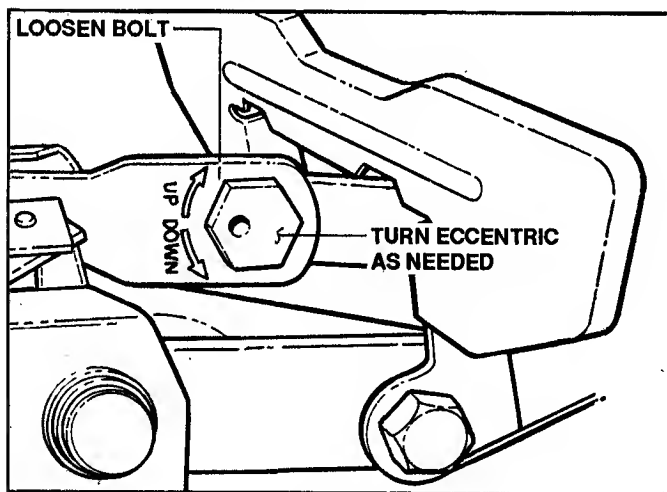

FIGURE 4.10
- (i) Turn eccentric "UP" or "DOWN" as required until blade tips are within 1/8" of each other. See Figure 4.10.